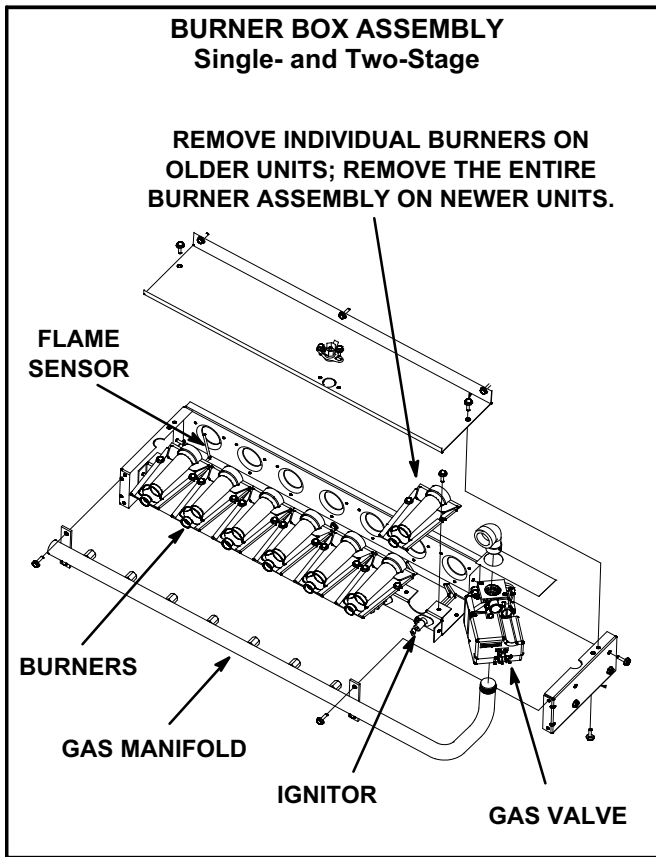

FIGURE 28
- 4- Remove screws securing burners to burner support and lift the individual burners or the entire burner assembly from the orifices. See figure 28 or 29. Clean as necessary.